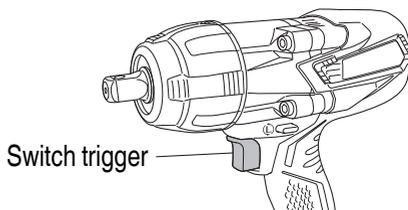

Fig. 5
3. Switch operation (**Fig. 5**)